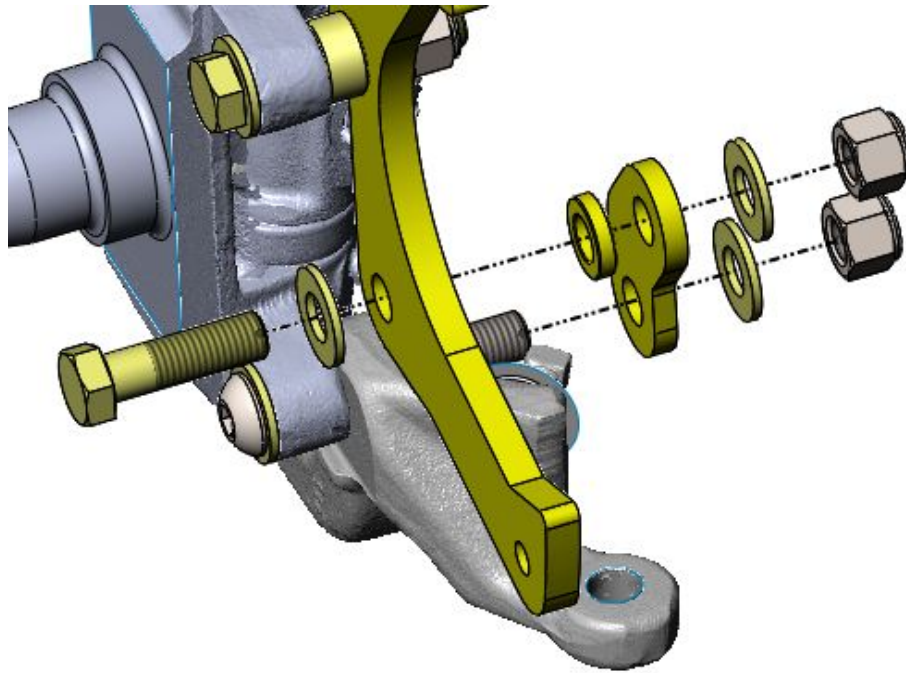

Figure 3 – Installing the Support Bracket
6. With the Button Head Cap Screws installed, slide the support bracket over the steer arm bolt. With the Caliper Mounting Bracket in place, position the 0.875" OD x 0.500" ID x 0.191" Length Steel Bushing between the two brackets and use a 1/2"-20 x 1.750" Grade 8 Hex Head Bolt with 1/2" Flatwashers and 1/2"-20 Grade 8 Nyloc Lock Nut. At this point, all hardware may be torqued to 85 ft/lbs. Figure 3 on the next page shows the installation of the bracket and hardware.